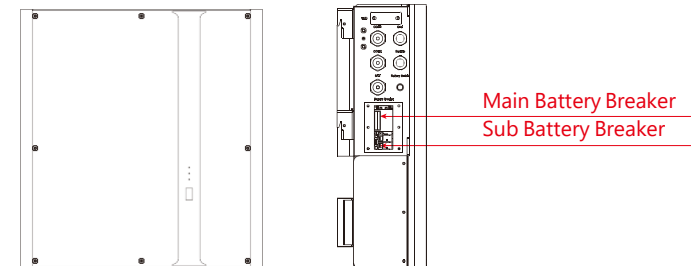

Figure 2.7 Remove SMILE-B3 Upper Cover Plate
**Step 2** Use the T20 double offset ring spanner to unscrew the screws, as shown in Figure 2.7